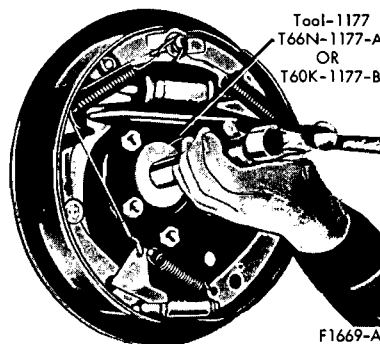

FIG. 4 Installing Rear Wheel Bearing Oil Seal
5. Install the new oil seal with the tools shown in Fig. 4. Wipe a small amount of oil resistant sealer on the outer edge of the seal before it is installed. Do not put sealer on the sealing lip.